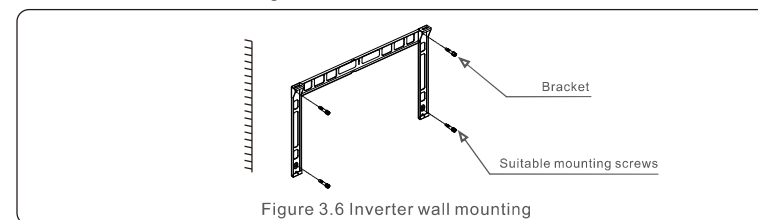
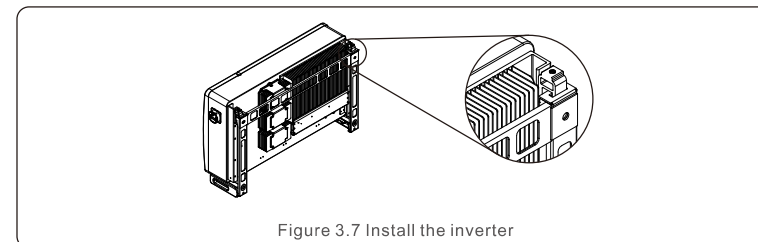

Figure 3.6 Inverter wall mounting
Figure 3.7 Install the inverter
Refer to figure 3.6 and figure 3.7 Inverter shall be mounted vertically. The steps to mount the inverter are listed below.
1. Refer to Figure 3.6, drill holes for mounting screws based on the hole diameter of bracket using a precision drill keeping the drill perpendicular to the wall. Max depth is 90mm.
2. Make sure the bracket is horizontal. And the mounting holes (in Figure 3.6) are marked correctly. Drill the holes into wall at your marks.